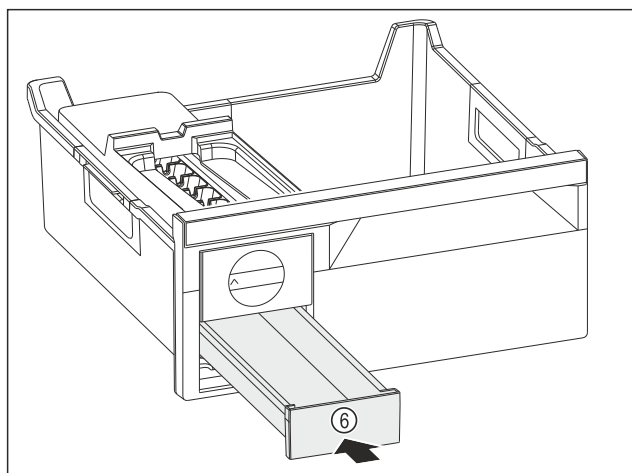

Fig. 79
- Insert the ice cube drawer Fig. 79 (6).